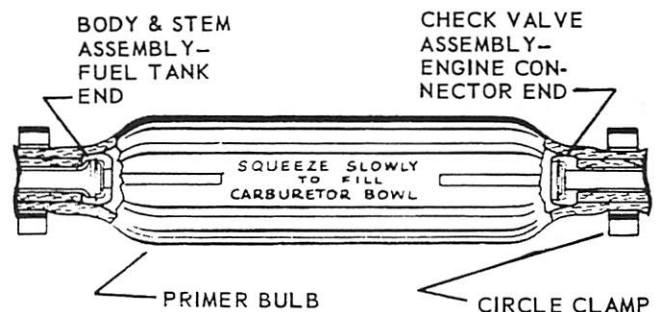
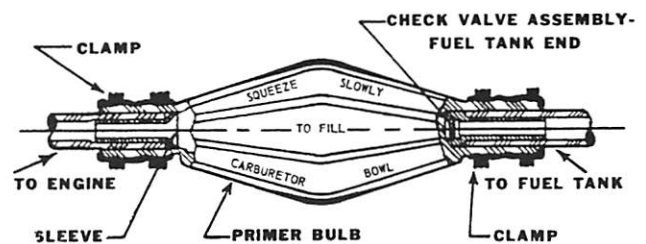

Figure 7. Primer Bulb Repair (Old Style)
Figure 8. Primer Bulb Repair (New Style)
NOTE: Two different fuel lines are used; one with 7/16" (11.2mm) outside diameter, the other with 1/2" (12.7mm). The 7/16" fuel line has a A-25423A1 check valve assembly in engine end of line and a A-25425A1 body and stem assembly in fuel tank end. (Figure 7) The 1/2" fuel line has a A-23-30184 sleeve in engine end of line and A-30183A1 body and stem assembly in fuel tank end. (Figure 8)
- b. Inspect check valve assembly and body and stem assembly for free operation. (Figure 8) If corroded,
- d. Insert stem into fuel line (fuel tank end). (Figure 8)